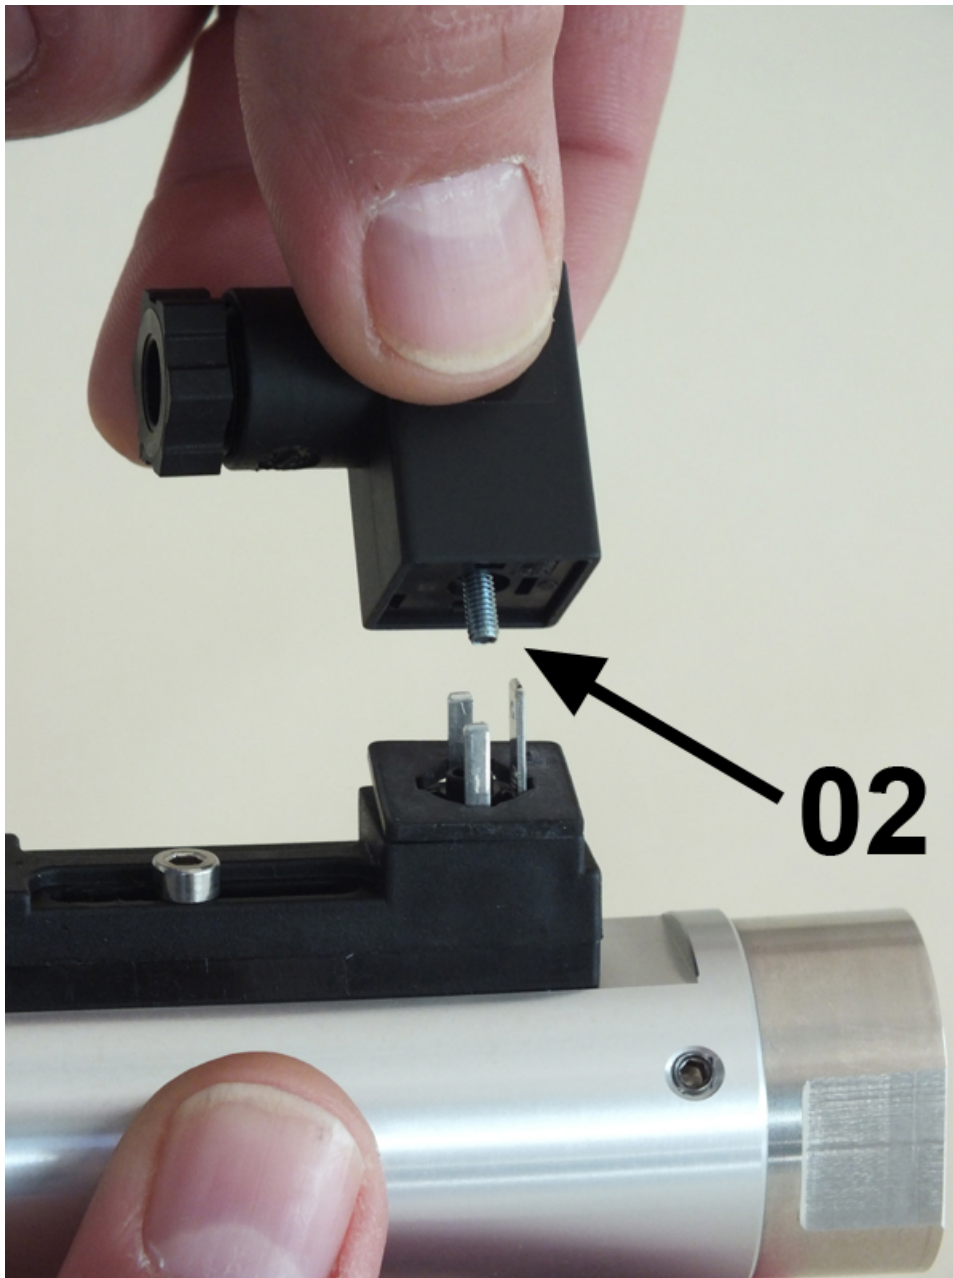

Fig. 22: Remove socket
2. ➤ Remove the socket (*Fig. 22/02*)